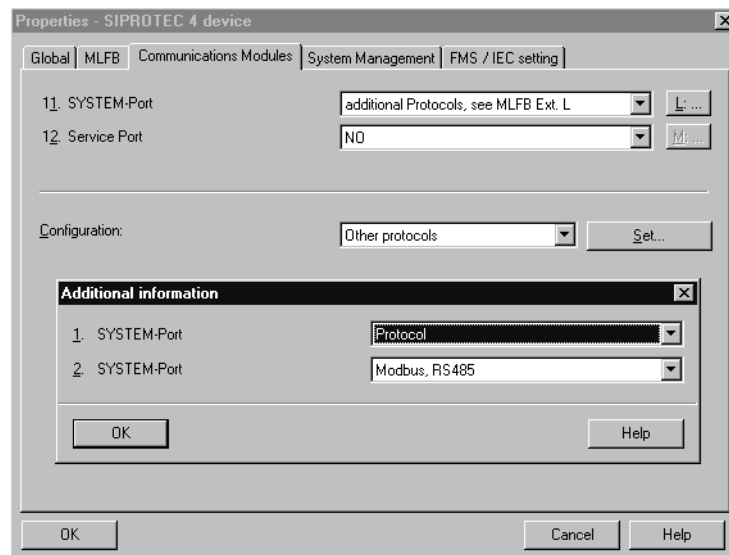

Figure 4-1 DIGSI 4.21: Modbus protocol assignment
**Properties - SIPROTEC 4 device** (ref. to Figure 4-1).
Select the SIPROTEC device in your project in the **DIGSI 4 Manager** and use the menu item **Edit - Object properties...** to open the **Properties - SIPROTEC 4 device** dialog window (ref. to Figure 4-1).
The mapping file selection is available in the dialog window **Other protocols** which is opened by pressing the button “Set ...” in the property sheet **Communications Modules** (ref. to Figure 4-1).